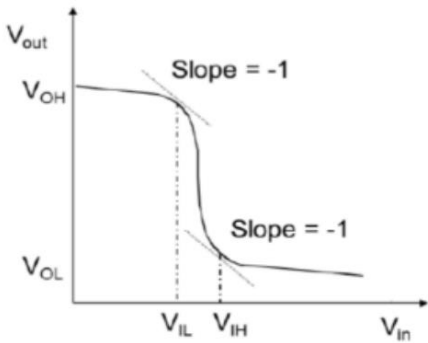

Fig. 1
- (a) Please design a INVERTER schematic with $(W/L)_n = 1\mu\text{m}/0.18\mu\text{m}$ while $(W/L)_p$ is your design. Design the transfer curve according to Fig. 1 with $V_{DD} = 1\text{V}$ and transition point $V_M = 0.5V_{DD}$. ($V_{out} = 0.5V_{DD}@V_{in} = 0.5V_{DD}$) in 3 process corner. (TT, SS, FF)
- (a) Please design a INVERTER schematic with length=14nm while n_{fin_n} and n_{fin_p} are your design. Design the transfer curve according to Fig. 1 with $V_{DD} = 0.8\text{V}$ and transition point $V_M = 0.5V_{DD}$. ($V_{out} = 0.5V_{DD}@V_{in} = 0.5V_{DD}$) in 3 process corner. (TT, SS, FF)